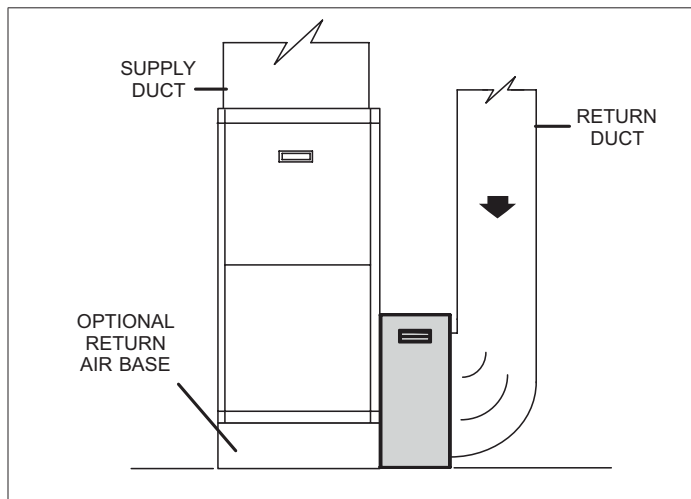
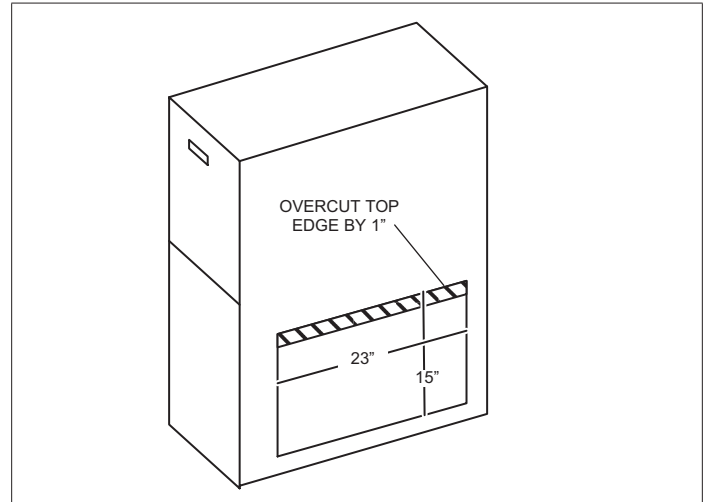

Figure 9. Up-flow Furnace (5 ton, Option 1)
Figure 10. Up-flow Furnace (5 ton, Option 2)
2. Align the cabinet opening with the opening on the furnace. For 5 ton application, use option 1 or 2 (see Figure 9 on page 5 and Figure 10 on page 5).